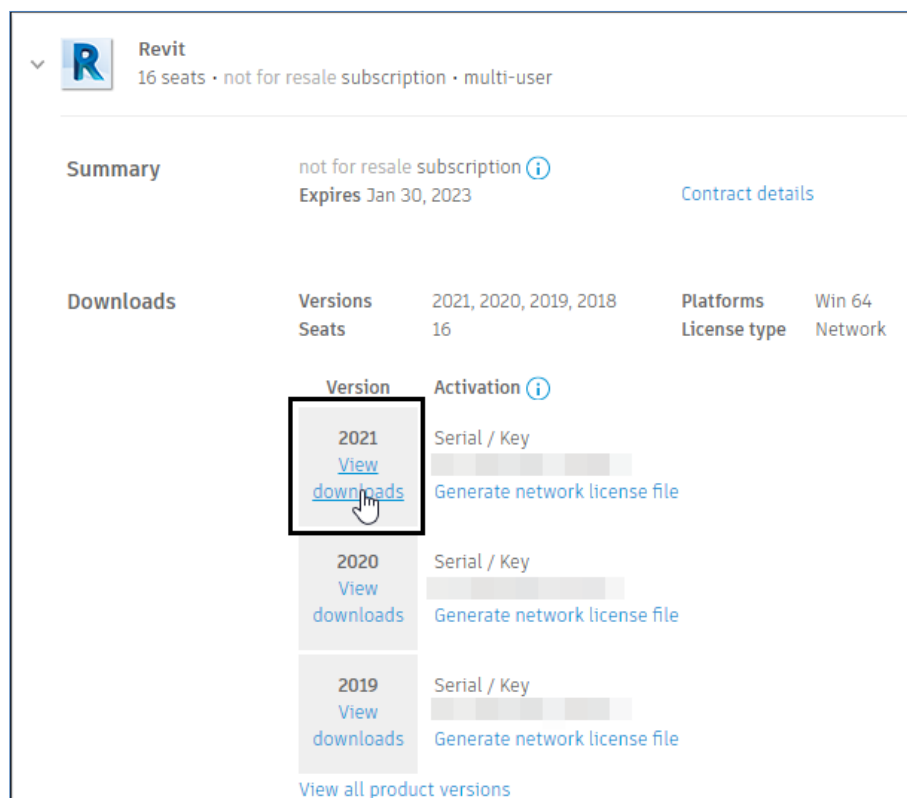

FIGURE 4: THE **ADVANCE STEEL 2021 EXTENSION**
3. Click on downloads under the 2021 version area, as shown in Figure 4; the Revit window is displayed with the downloads, serial numbers, and updates & add-ons tabs.